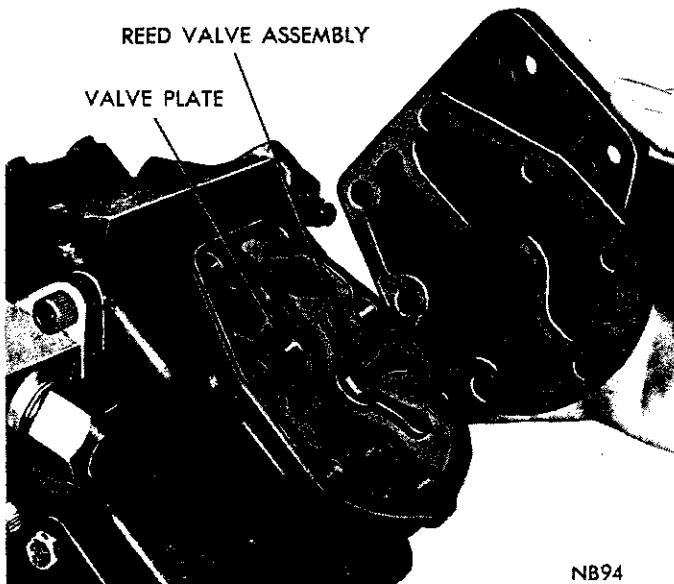

Fig. 9—Valve Plate—Installed Position
- (1) The valve plate and the cylinder head must be assembled with the reed valve assembly (Fig. 9).